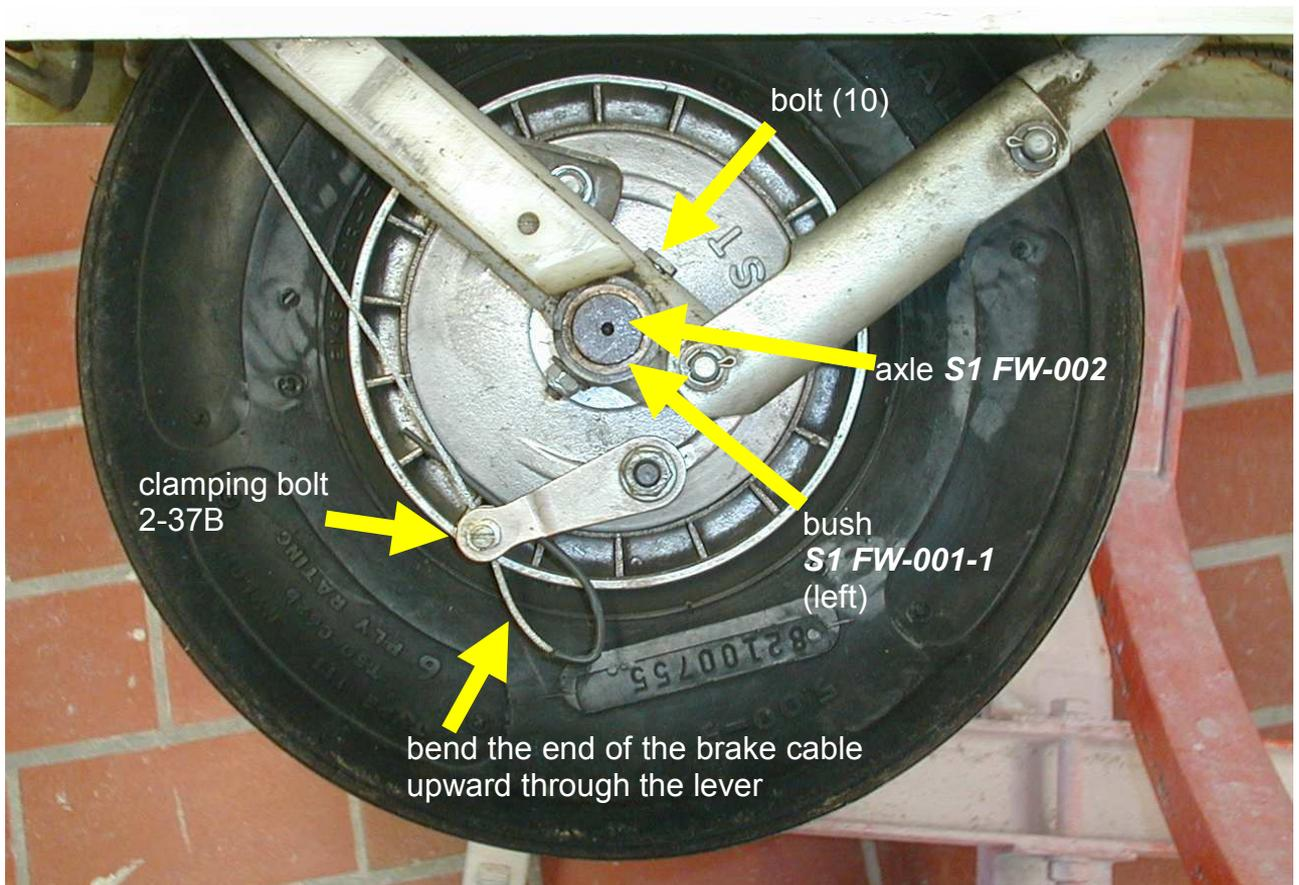

Figure 7: Assembled TOST-wheel
8) Adjust brake lever at the hub according to Figure 7.
To prevent the cable end from touching the ground it has to be bend according to Figure 7 and passed upwards through the brake lever.